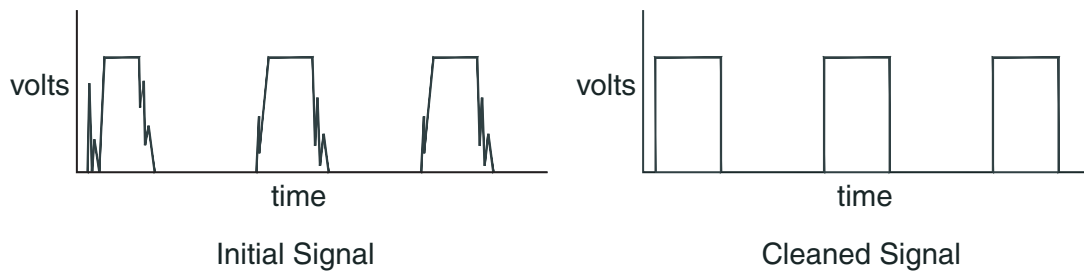

Fig. 18
- (a) Fig. 18 shows the initial signal from the rotating crank followed by the cleaned signal. Use notes or sketches to show how the cleaned signal can be produced.